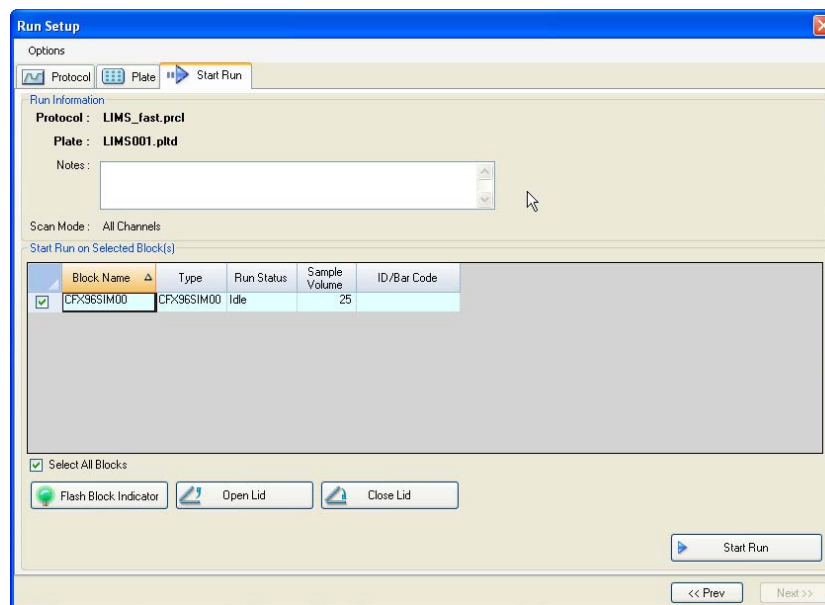

Figure 114. Run Setup window with a LIMS run ready to start.
- To start the run for a selected LIMS file, select an instrument and click **Start Run** (Figure 114). The contents of the LIMS file and linked protocol file are used to complete the protocol and plate tabs.